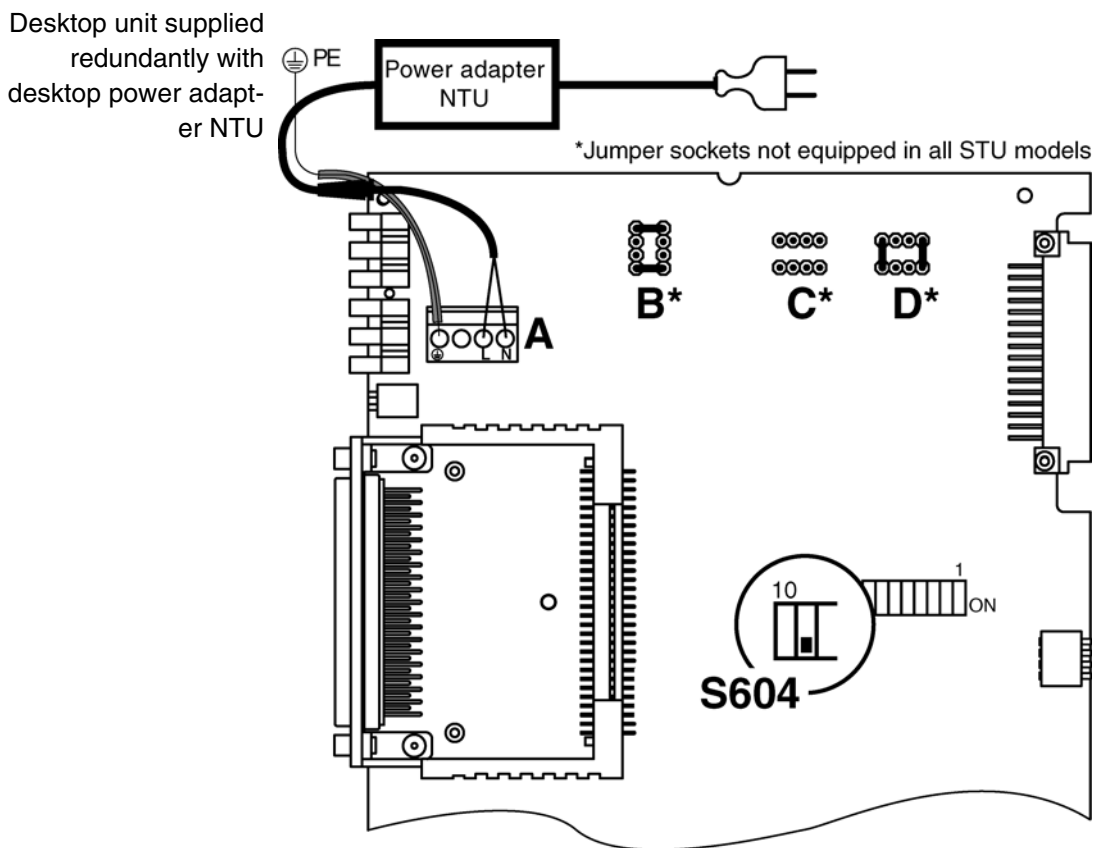

Fig. 2.56 Jumper settings: Desktop unit supplied redundantly with desktop power adapter NTU
6. Set the jumpers according to Chapter 2.7.4, Fig. 2.56 to remote supply (additional jumpers are included with desktop unit NTU)